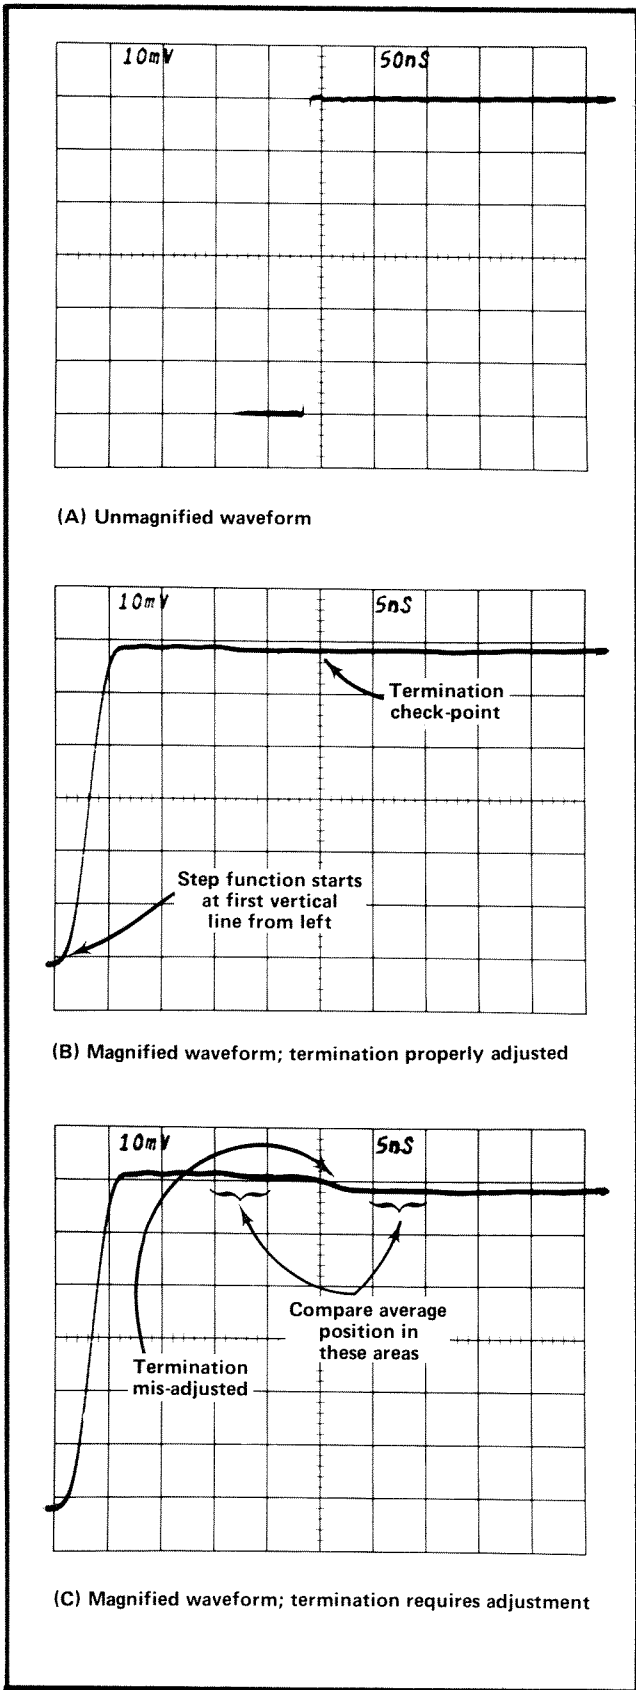

Fig. 5-6. Termination adjustment waveforms, step 5.
d. Switch the Time Base Time/Div to .05 μ s. Increase the Oscilloscope Intensity and adjust the Triggering and Position controls as necessary to obtain a display as in Fig. 5-6(A).
e. Switch the Time Base Magnifier to X10 and adjust the Position control to position the display as indicated in Fig. 5-6(B). The beginning of the step function should start at the first vertical graticule line at the left for convenient time measurement.
f. CHECK—93 Ω Termination. No obvious step should appear approximately 25 ns after start of the step function. The average trace position 15 to 20 ns after the start of the step function should be within ± 0.05 division of the average trace vertical position 35 to 40 ns after the start of the step function as shown in Fig. 5-6(B). Fig. 5-6(C) shows a waveform resulting from a misadjusted termination.
(1) Disconnect the Probe from the 50 Ω Termination/Adapter.
(2) De-energize the 7A11 by pulling it free from the Oscilloscope connector.
(3) Remove the Probe upper cover and shield as explained in the Maintenance Section.